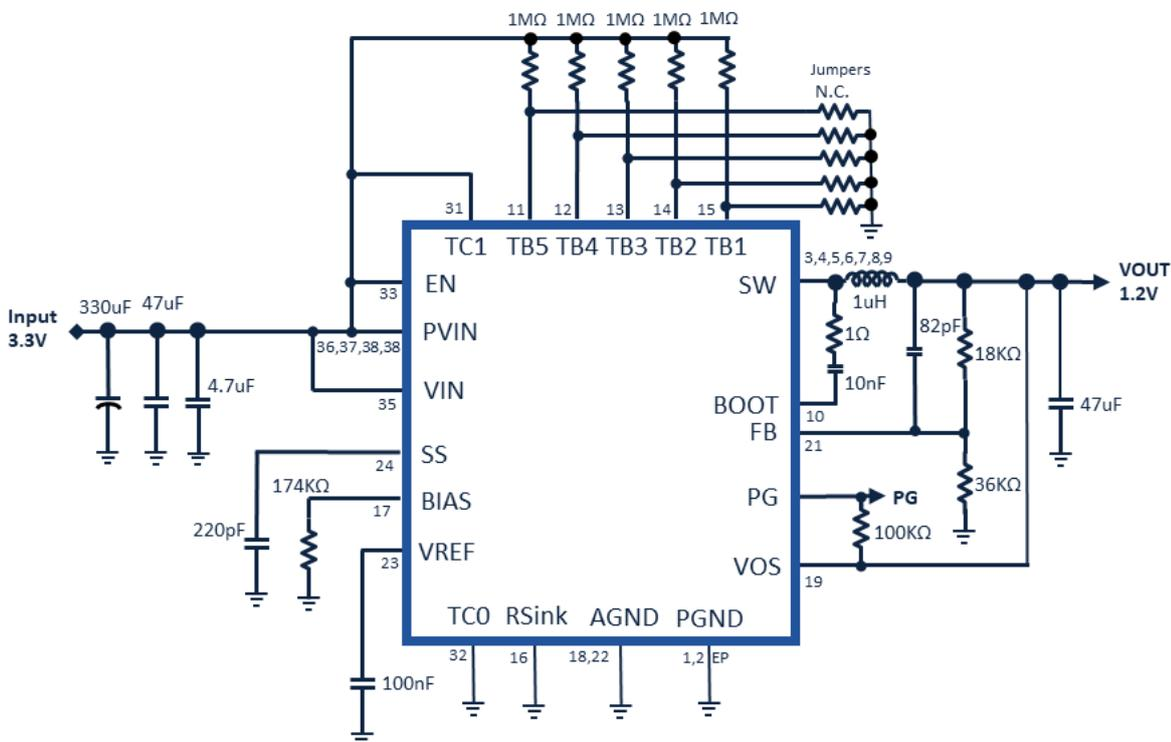

Figure 6 Reference Application-circuit VIN=3.3V, VOUT=1.2V
| 11-15 | TB1~TB5* (LSB..MSB) | Analog I/O | Please refer "Fig.6 application-diagram". VREF Trimming pins (For ZES internal test-pin) |
| 16 | RSINK* | Analog I/O | "Please refer "Fig.6 application-diagram". Connect to AGND." Sink Resistor pin (For ZES internal test-pin) |
| 17 | BIAS | Analog I/O | Fig.6 Connect 174Kohms and AGND. Bias Resistor pin (For ZES internal test-pin) |
| 31-32 | TC0, TC1* | Analog I/O | Please refer "Fig.6 application-diagram". TC0 connect to AGND. TC1 connect to VIN". Current Sensing Trimming pin (For ZES internal test-pin) |
ZES302 samples now are Engineering-samples (ES) and undergoing final revisions. Below is “Reference Application circuit” (Fig.6) and the supporting test-data for your reference. Please share your application details with ZES for design-recommendations.
The following application circuit (Fig.6) and test data graphs were obtained using the circuit shown in Fig. 6, by using additional test-pin connections to evaluate the performance.
As in Fig.6, please use TB1~TB5 pin connections to pull-up using 1M ohms to VIN, for VREF stability(PIN #23).
Note: The above Reference Application circuit (Fig. 6) and the Test data are tested on ZES evaluation board. Please contact ZES for application support.
| V0.0.75 | <ul style="list-style-type: none"> Application-circuit VIN=5V (Fig.1) for Evaluation-Samples by using Test-pins connected externally. Fig.1 VREF capacitor value changed 10nF → 100nF Added Ref. Application circuit VIN 5.5V (Fig 1) for Point data and VIN=3.3V (Fig.6) & Test data for VIN=3.3V, VOUT=1.2V. TB1~TB5 connections externally modified to stabilise VREF=0.8V Change Efficiency plot to logarithmic Remove” Further, multiple of ZES’s PoLs can be placed in parallel, hence exhibiting innate redundancy.” Removed “Plug-and-play’ parallel operation with redundancy” Efficiency data change to max range current | June 2024 |